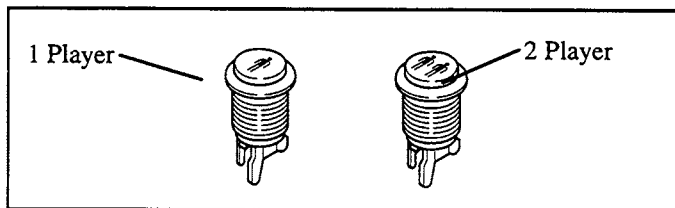

FIGURE 3
15. Notice that there are two white buttons. (See Figure 3.) Install the **PLAYER ONE** button on the top left-hand side of the control panel, and the **PLAYER TWO** button on the top right-side of the control panel. The **WHITE** buttons are **START** buttons.